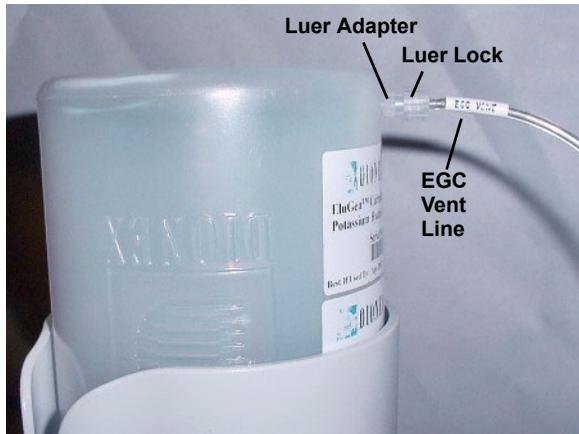

Figure 5-43. EGC Vent Line and Luer Fitting
5. Remove the **EGC VENT** line (see Figure 5-43) from the EGC by unscrewing the luer lock from the luer adapter.